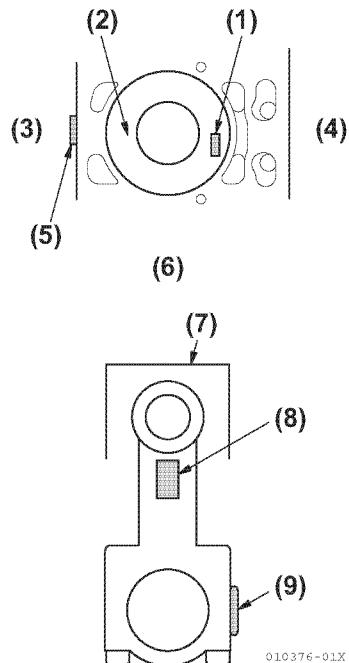

Figure 5-141
- After inserting the piston, make sure the ID marks (size mark and model mark) on the piston top are in the correct position, looking from the top of the piston (**Figure 5-140**) and (**Figure 5-141**).